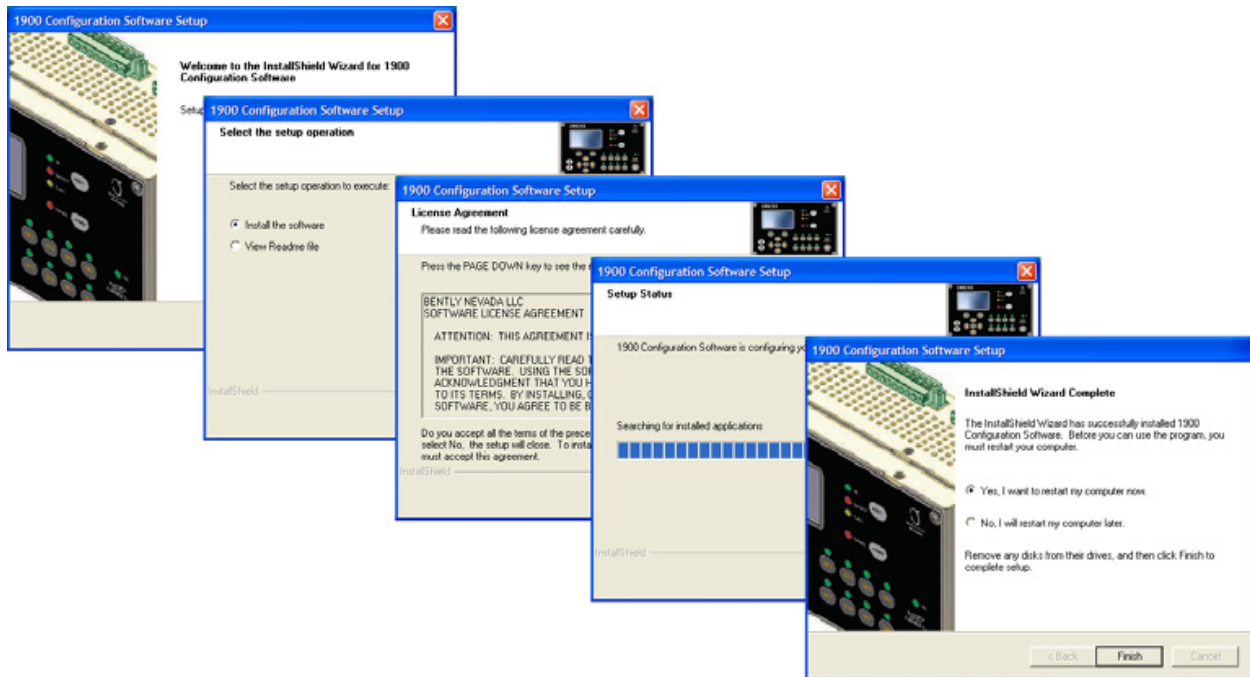

Figure 3 - 4: Installation sequence.
3. Follow the setup Instructions (similar to Figure 3 - 4: Installation sequence.)